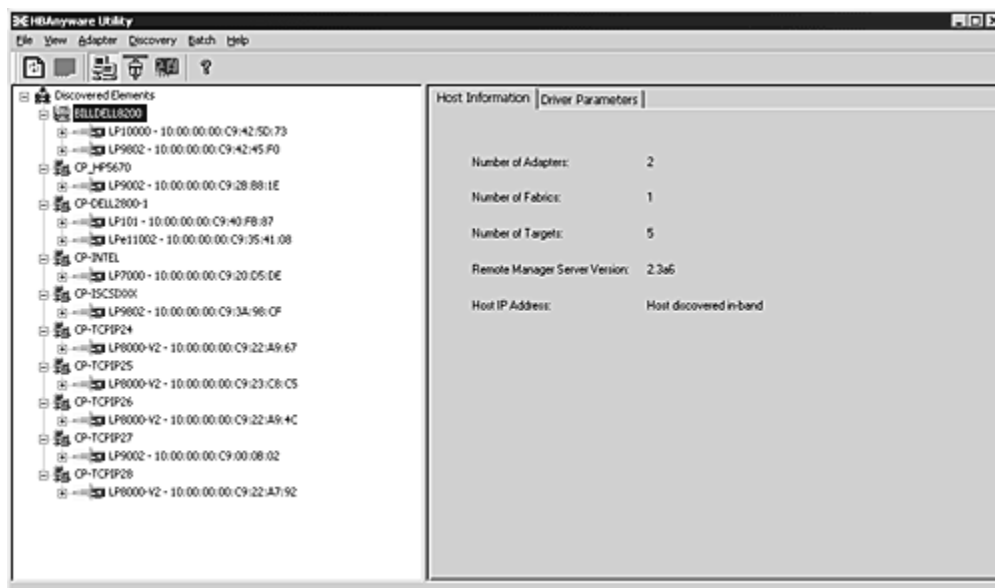
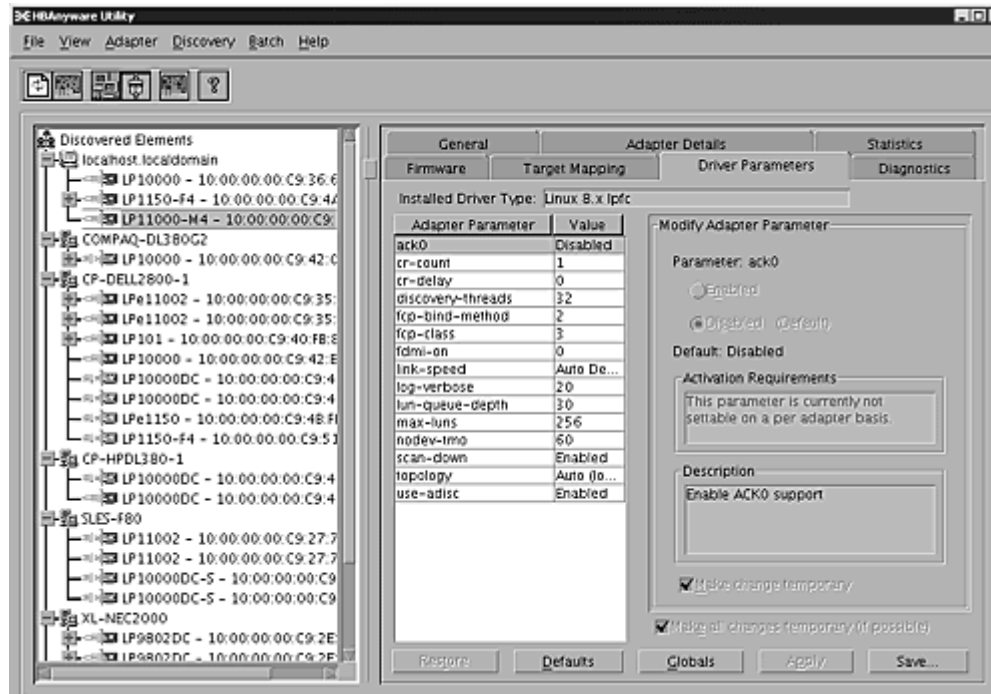

Figure 7: HBAnyware Utility, Host Information Tab
Figure 8: HBAnyware Utility, Driver Parameters Tab - Host Selected
4. Select the Host Information tab (see Figure 7) or the Host Driver Parameters tab (Figure 8).
The Host Driver Parameters tab (Figure 8) enables you to view and edit the HBA driver settings contained in a specific host. The host driver parameters are global values and apply to all HBAs in that host unless they are overridden by parameters assigned to a specific HBA using the HBA Driver Parameters tab. For each parameter, the tab shows the current value, the range of acceptable values, the default value, and whether the parameter is dynamic (a dynamic parameter allows the change to take effect without resetting the HBA or rebooting the system).